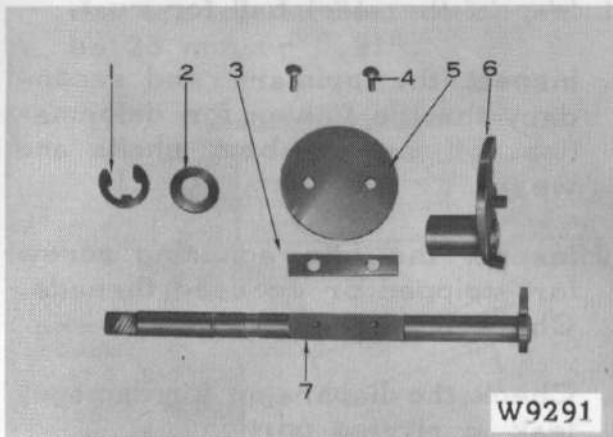

Fig. 3-34 Disassembled Parts
14. Remove the retainer ring (1), and the throttle valve securing screws (4), then remove the following items in figure 3-34.